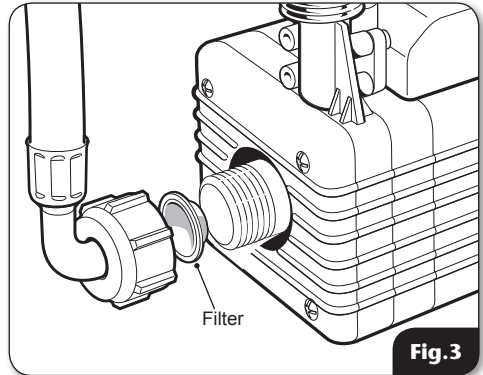

Fig.3
- Connect the inlet flexible connector to the inlet port of the pump ensuring the filter is in position (**fig.3**).